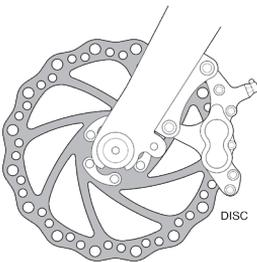
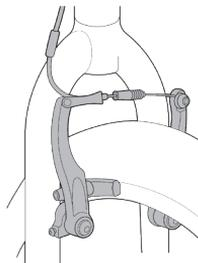

fig. 14
fig. 15
1. If your bike has rim brakes, disengage the brake's quick-release mechanism to increase the clearance between the tire and the brake pads (see Section 4.C, figs. 14 through 18, p. 45).
1. If you have a multi-speed bike with a derailleur gear system: shift the rear derailleur to high gear (the smallest, outermost rear sprocket). If you have an internal gear rear hub, consult your dealer or the hub manufacturer's instructions before attempting to remove the rear wheel. If you have a single-speed bike with rim or disc brake, go to step (4) below.
2. If your bike has rim brakes, disengage the brake's quick-release mechanism to increase the clearance between the wheel rim and the brake pads (see Section 4.C.1, figs. 14 through 18, p.42).
3. Some bicycle brakes, such as disc brakes (fig. 14) and linear-pull brakes (fig. 15), are extremely powerful. Take extra care in becoming familiar with these brakes and exercise particular care when using them.
Most rim brakes have some form of quick-release mechanism to allow the brake pads to clear the tire when a wheel is removed or reinstalled. When the brake quick release is in the open position, the brakes are inoperative. Ask your dealer to make sure that you understand the way the brake quick release works on your bike (see figs.14, 15, 16, 17, & 18) and check each time to make sure both brakes work correctly before you get on the bike.